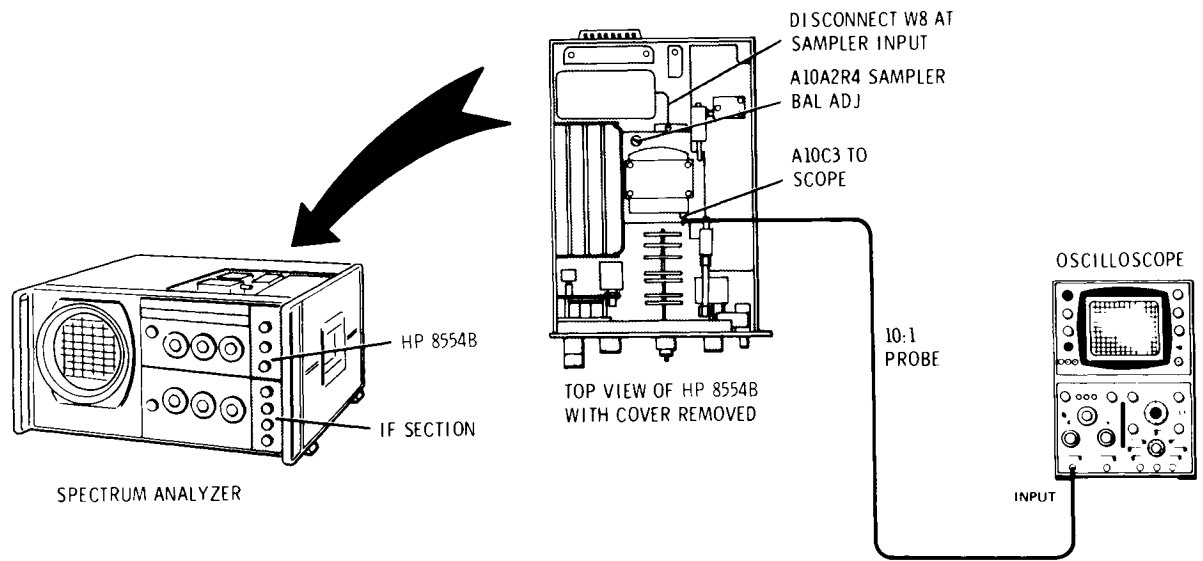

Figure 5-12. Sampler Balance Check and Adjustment Test Setup
2. Connect equipment shown in test setup, Figure 5-12, and make the following control settings: